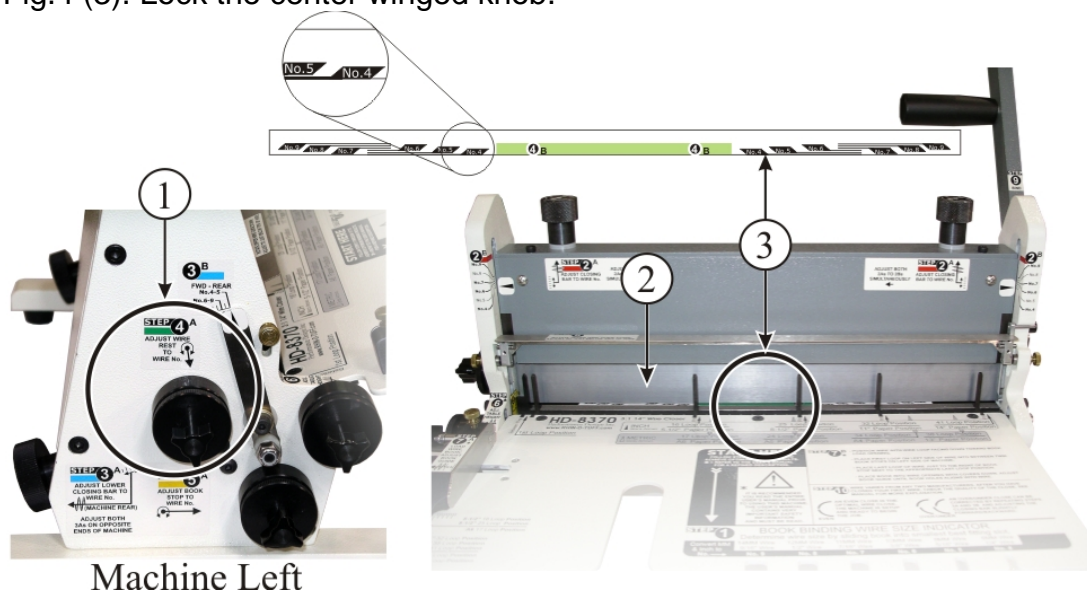

Fig. 4
STEP 4 GREEN, Adjust Wire Rest: See Figure 4.
Locate Step 4 decal only on the left side of the machine (1). Adjust the Step 4 Knob by unlocking the center winged knob then turn the outside dial so that the Wire Rest (2) aligns with the appropriate Wire Number on decal 4B shown in Fig.4 (3). Lock the center winged knob.